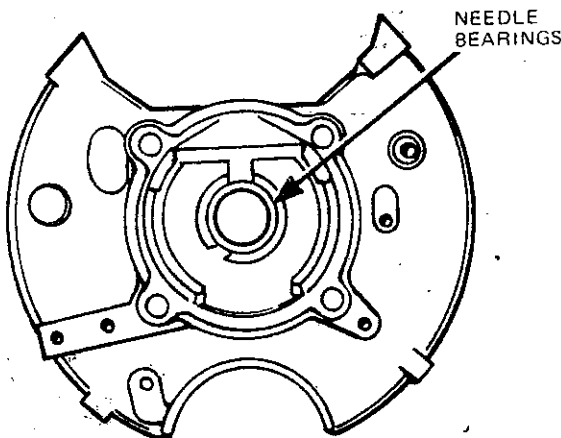
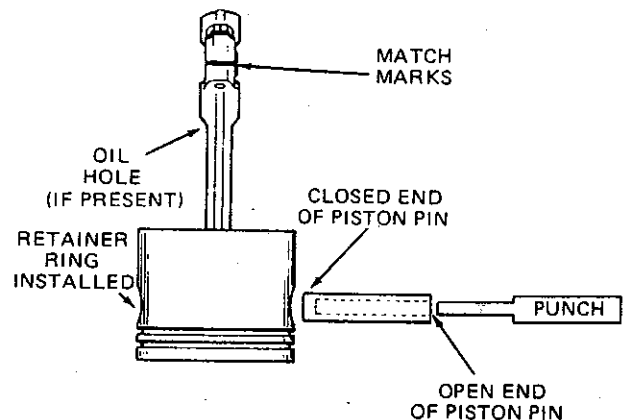

Figure 19
Figure 25
- (4) Roller type main bearing needles may fall from the bearing cage with very little effort. The bearing cage can be removed and installed after heating cylinder block or magneto and fan base housing to 400 degrees F. (204 degrees C.). Use grease to hold bearing needles in position while installing crankshaft. (See Figure 19).
- (5) Bushing type bearings can not be removed. If bushings are worn excessively, new cylinder block must be installed.
- (4) Gradually heat the oil using a hot plate or torch until the oil begins to smoke.
- (5) When the oil smokes, remove the piston from the oil and install the piston to the rod by quickly pushing the piston pin through both the piston and rod until the pin bottoms on the retaining ring. Use a flat face punch to position and guide the piston pin into the piston and rod. (See Figure 25).
It is important to assemble offset piston to connecting rod correctly with marks on piston as shown in Figure 19 and the match marks on connecting rod (Figure 25) down. Piston pin with closed end should be toward exhaust side (down).